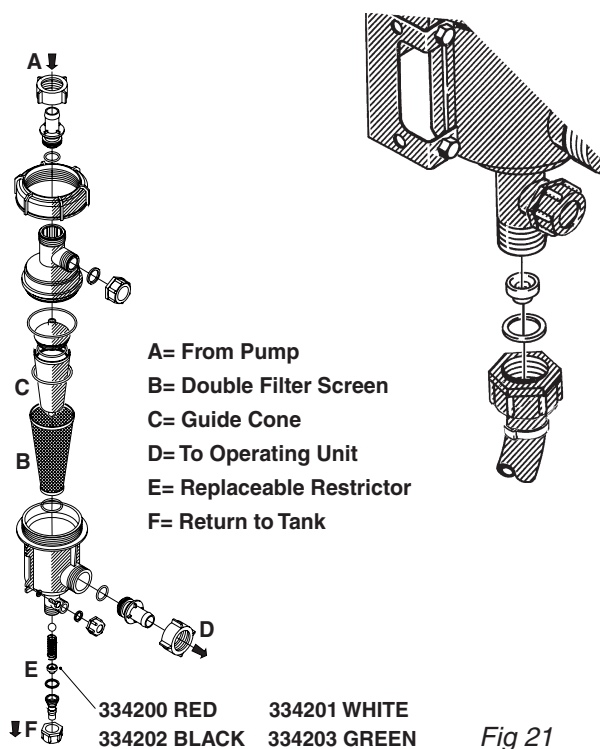

Fig 21
**IMPORTANT!** Note direction of restrictor in (Fig 21).
Disconnect the hose (Fig 21) at the self cleaning filter, place the restrictor in the hose and reconnect.